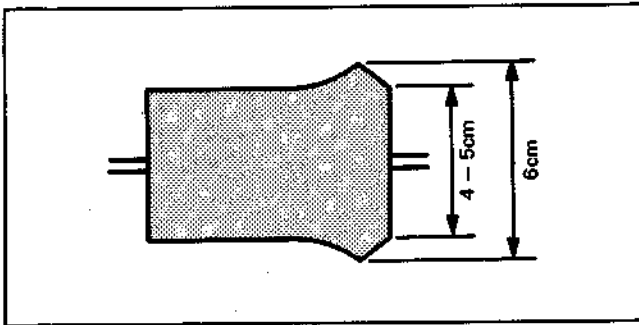
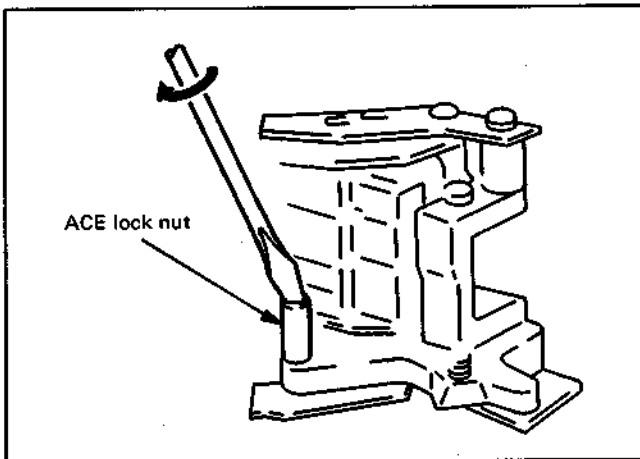
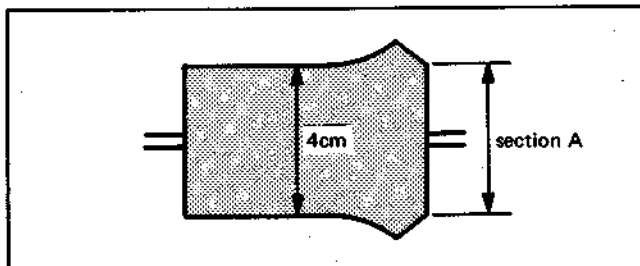

Fig. 1-16 Lateral Waveform
Fig. 1-17
Fig. 1-18
- 4) While observing the RF output waveform, turn the ACE lateral adjustment screw slowly clockwise (after 30° turn, observe for 5 – 10 seconds), so that the waveform is as shown in Fig. 1-16. When the waveform fluctuates, adjust so that the part with the fewest peaks becomes the waveform in Fig. 1-16.
- 5) Turn the ACE lock nut clockwise with a screwdriver and tighten lightly. (Fig. 1-17) Conform that the change in the RF waveform at this time is within 1cm at section A relative to the waveform in Fig. 1-16, when the center is 4cm (Fig. 1-18)